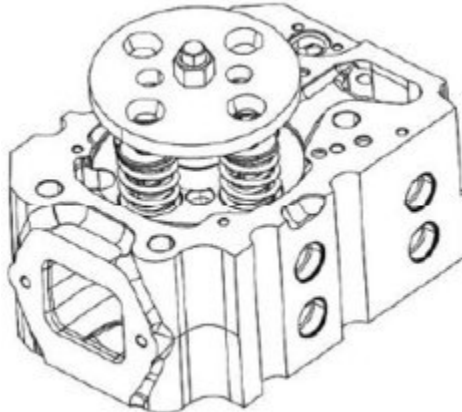

Figure 53. Valve Spring Compressor Assembly
3. Using the valve spring compressor tool, compress the valve springs (Figure 53).